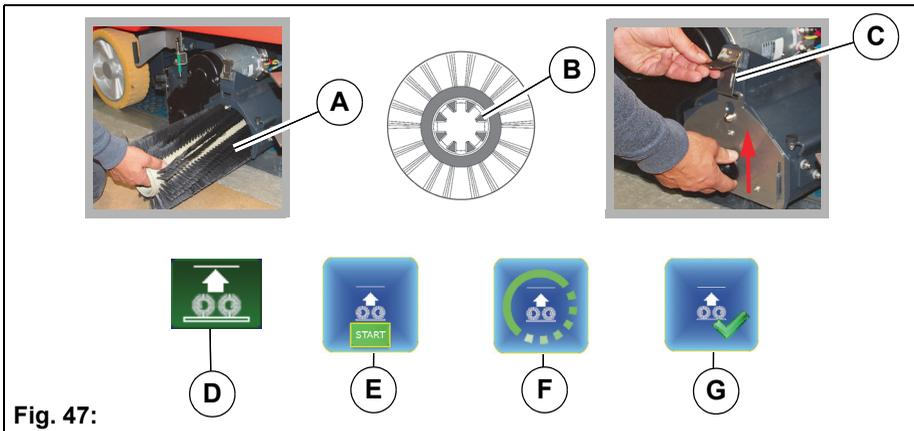

Fig. 47:
1. Slide the brush **Fig. 47-A** with the toothed side **Fig. 47-B** onto the driver.
2. Fit the cover into position, slide upwards and secure with the fastener **Fig. 47-C**.
Select the soft key *Raise brushes* **Fig. 47-D** using the turn-push knob and confirm. The action window **Fig. 47-E** opens. Use the turn-push knob to confirm the start.
The procedure starts and symbols **Fig. 47-F, G** appear on the multifunction display one after the other. Only now is the procedure complete.